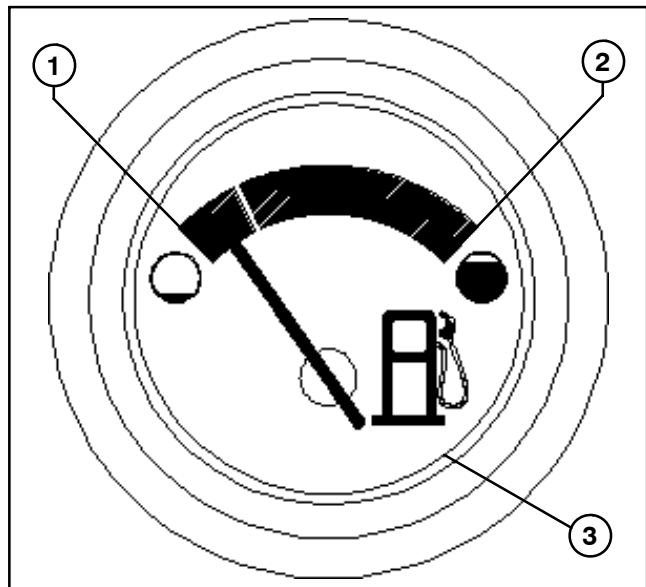

Figure 28
2. Take test point readings (Fig. 28).